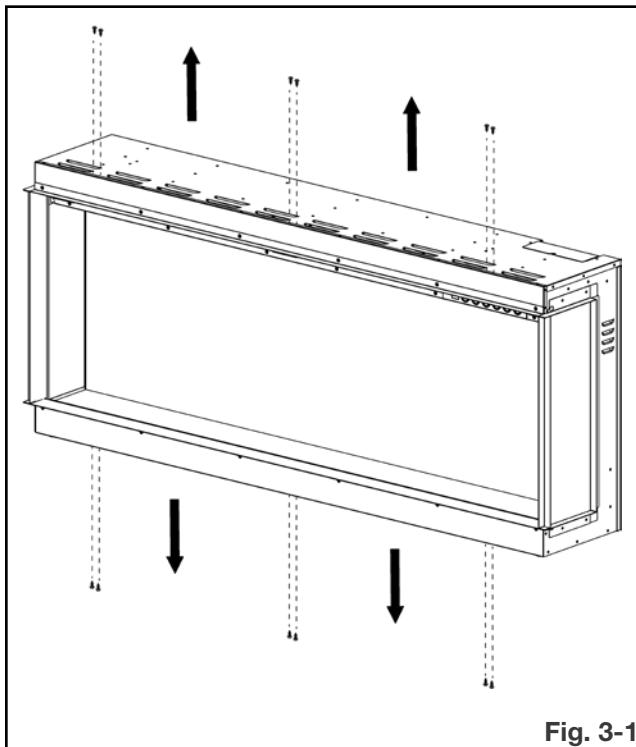

Fig. 3-1
1. Remove the 12 screws and washers from the top and bottom of the appliance (**Fig. 3-1**).